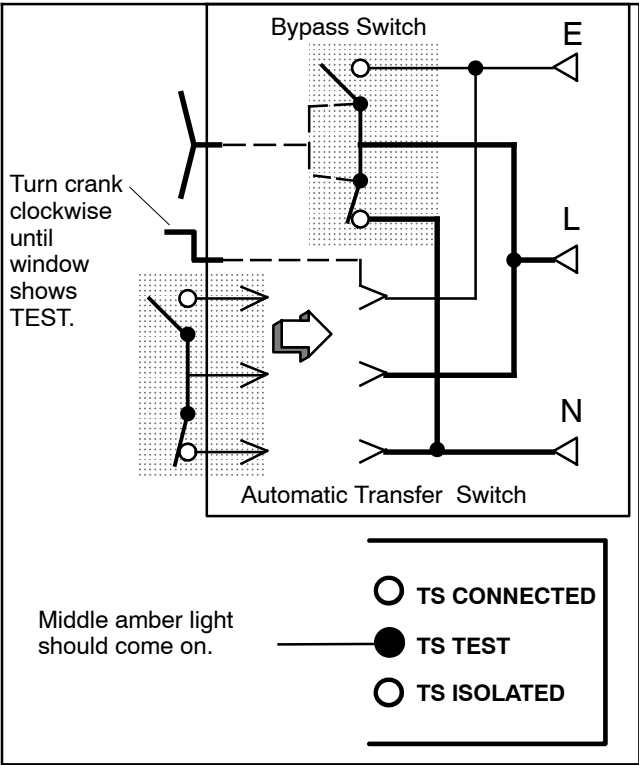
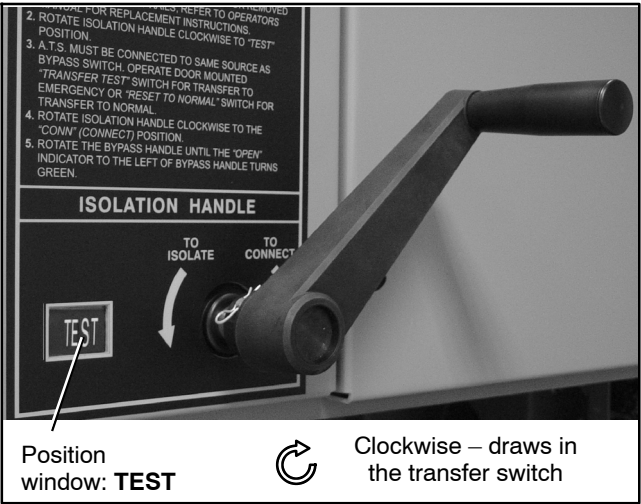

Figure 7-44 From ISOLATE to TEST Position
Figure 7-45 Isolation Handle Turned to TEST
- 2. Turn the Isolation Handle clockwise (approx. 6 turns) until the window shows TEST and TS TEST light comes on. See Figure 7-44 and Figure 7-45.